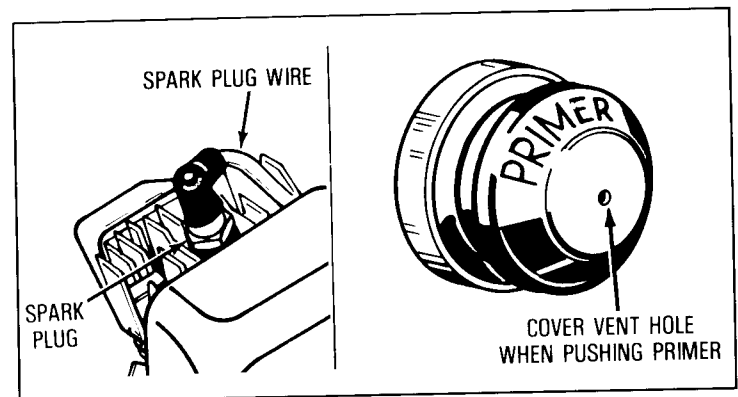

Figure 2
- B. Be sure spark plug wire is attached to spark plug (see Figure 2).
- B. Push primer two (2) or three (3) times (see Figure 2). Wait about two (2) seconds between each push. ALWAYS COVER "VENT HOLE" when pushing primer. See warm engine restart "NOTE" above.
- B. Push primer one (1) time (see Figure 2).